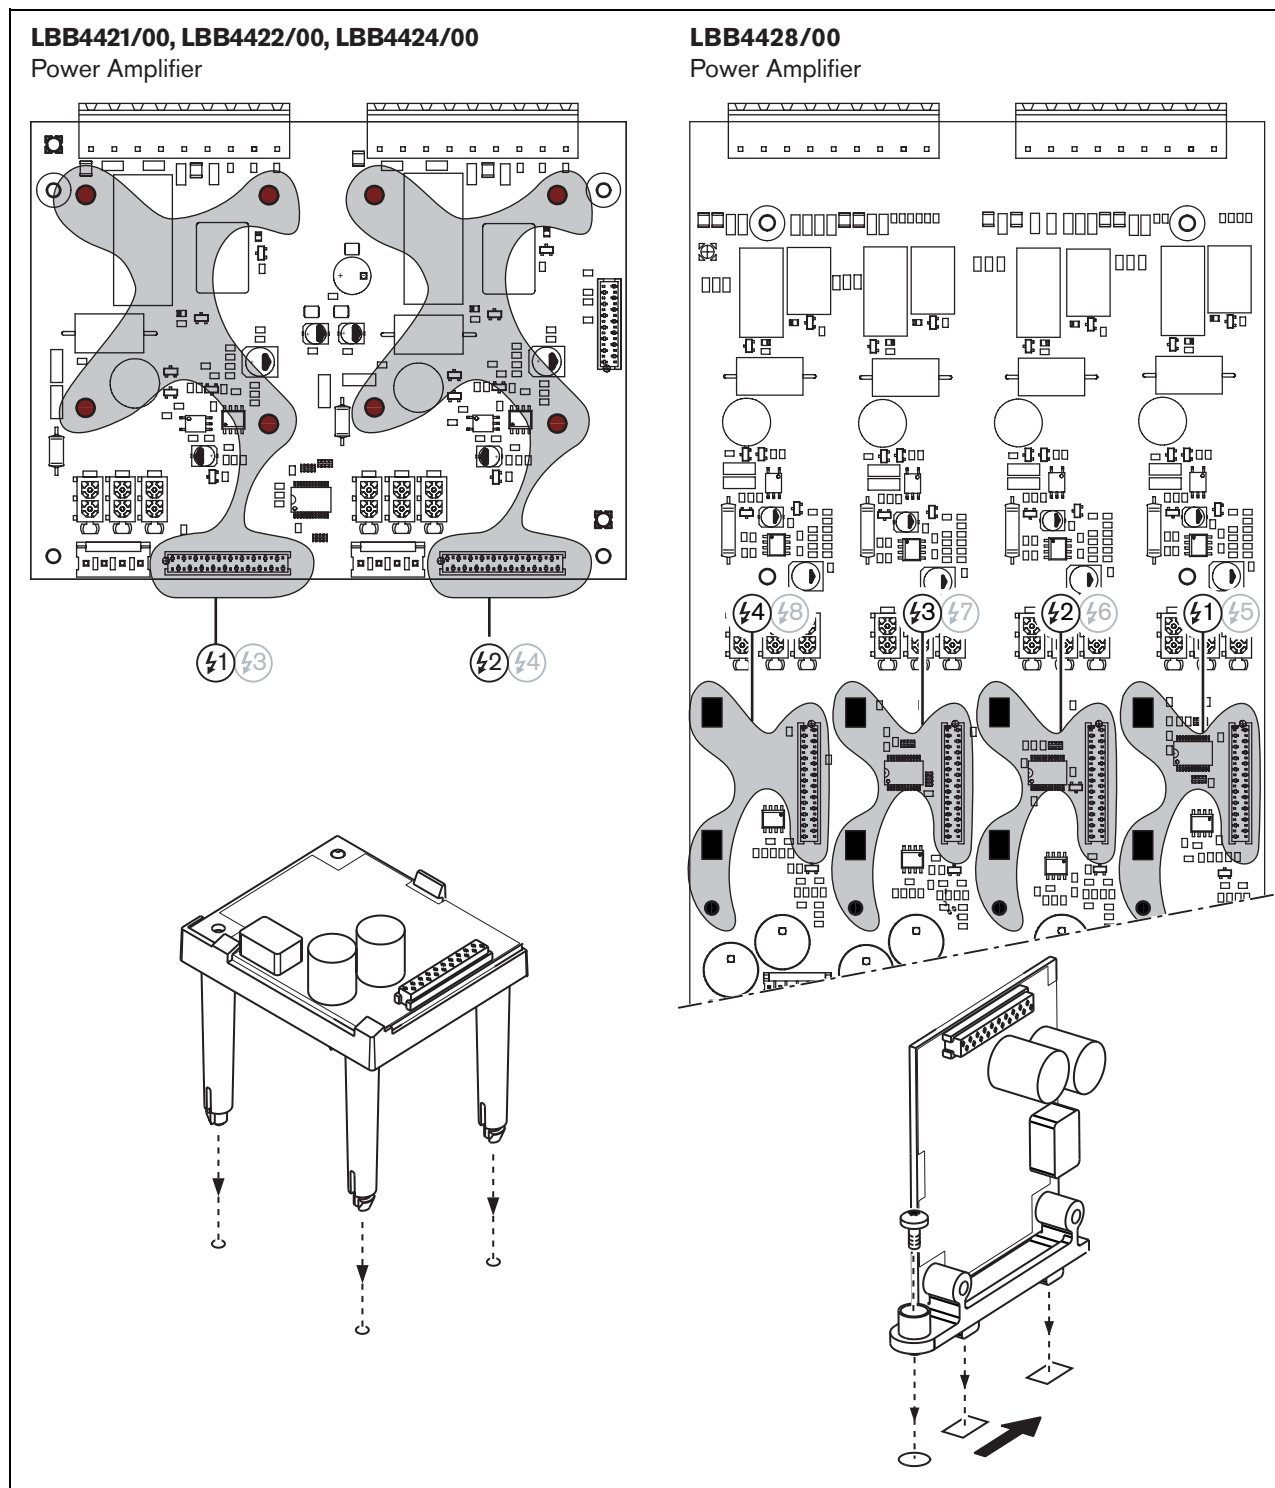

figure 9.4: Supervision-master installation
- 1 Remove the lid from the power amplifier and locate the output board (see figure 9.4).